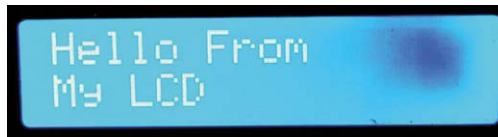

Figure 6.7 Text displayed on the LCD
- Join the nodes as shown in Figure 6.5, and click **Deploy**. You should see the text displayed as shown in Figure 6.7